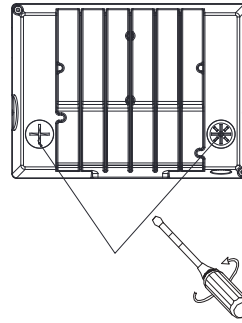

Fig 9.4
Step 2: After adjusting the required control function Figure 9.3, tighten the metal plug and the plastic plug clockwise. Figure 9.4